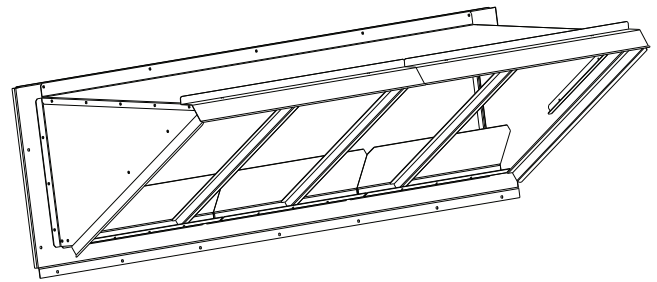
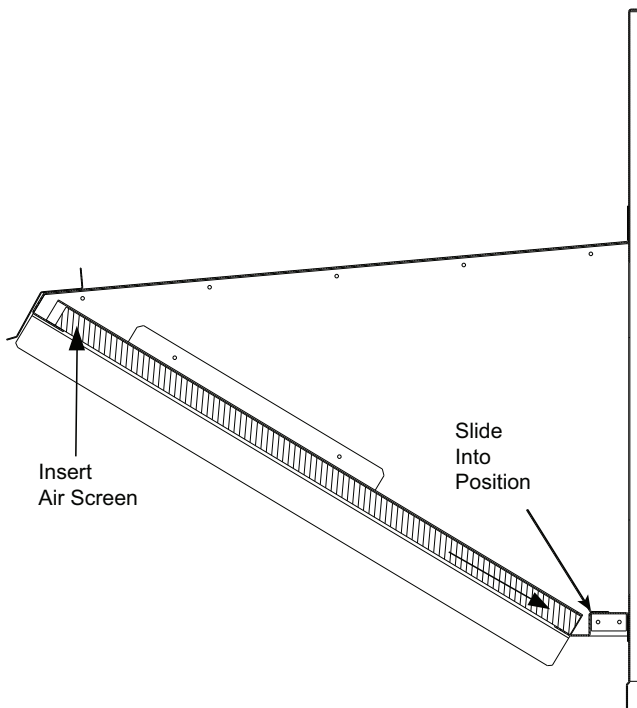

Fig. 12 — Completed Hood Assembly
Fig. 11 — Outdoor Air Screen Installation
- k. Install outdoor air screens by sliding them into each of the four spaces created by the hood, filter support and central retainers. To do so, first insert the air screens into pocket created at the end of hood (Item #3), then fully put the air screen into place, then slide them back into pocket created in the filter support (Item #1). Repeat this for each air screen. (See Fig. 11.) See Fig. 12 for completed hood assembly.
15. Install the hood assembly on to the unit (see Fig. 12 and 13).